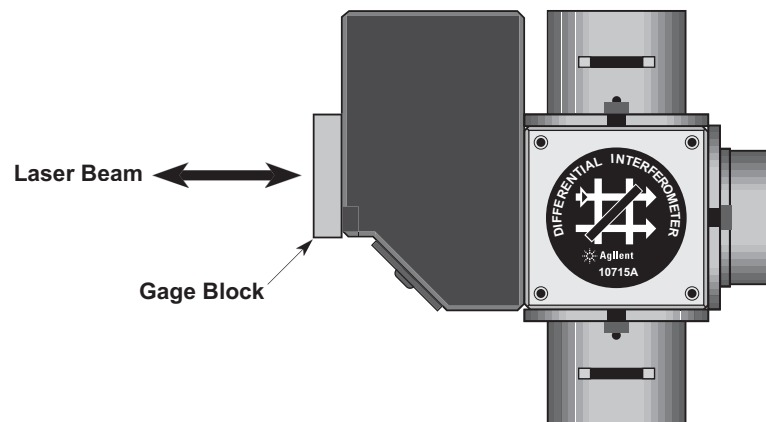

Figure 147 Agilent 10715A with gage block in position
- 4 Place a rectangular gage block over the input aperture so that it reflects the laser beam back toward the laser. See Figure 147.